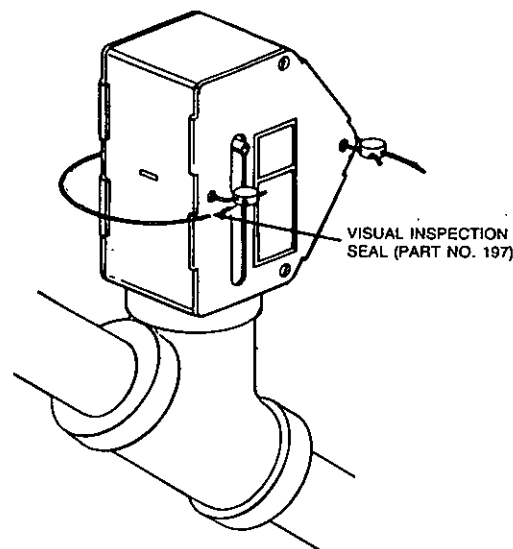

FIGURE 1
8. Reinstall side covers to gas valve housing. Make certain roll pin is positioned within both sides of the valve housing slot. Connect visual inspection seals (Part No. 197) on Ansul type valves. See Figure 1.